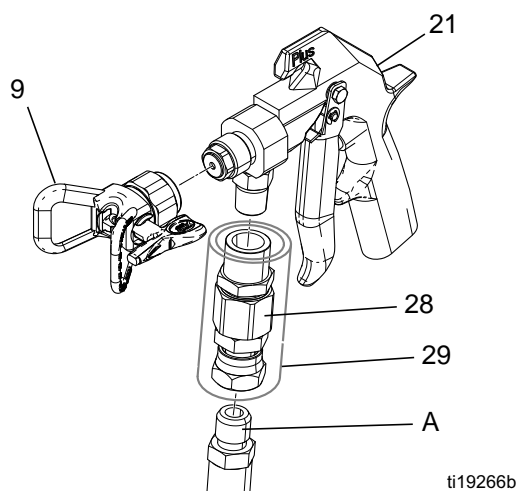

FIG. 5
3. Remove insulating cuff (29). Disconnect the fluid hose (A) and swivel (28). Remove the tip guard (9). Unscrew the spring screw (21) about 1/4 in. (7 mm) to release spring tension. See FIG. 5.